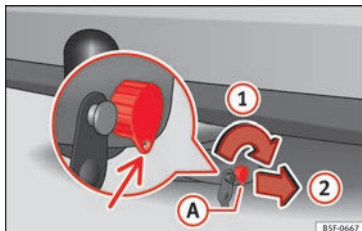
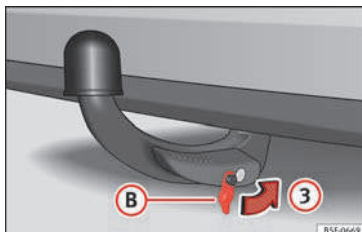

Fig. 183 Locking the lock.
Fig. 184 Placing the cover over the lock.
- Turn key (A) in the direction of arrow (1) until the part of the key with the holes reaches the bottom position » Fig. 183.
- Remove the key in the direction of arrow (2).
- Place cover (B) in the lock in the direction of arrow (3) » Fig. 184 » ①.
① CAUTION